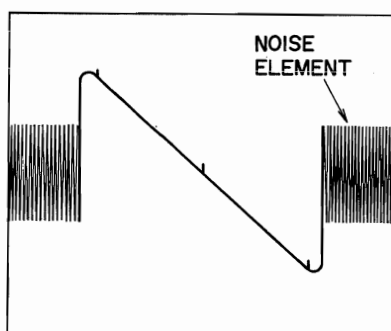

Fig. 8
- 4) Adjust the upper core of Front End IF Coil (Fig. 18) to obtain maximum wave height value of S Curve in Fig. 8, and adjust the lower core to obtain maximum noise level.